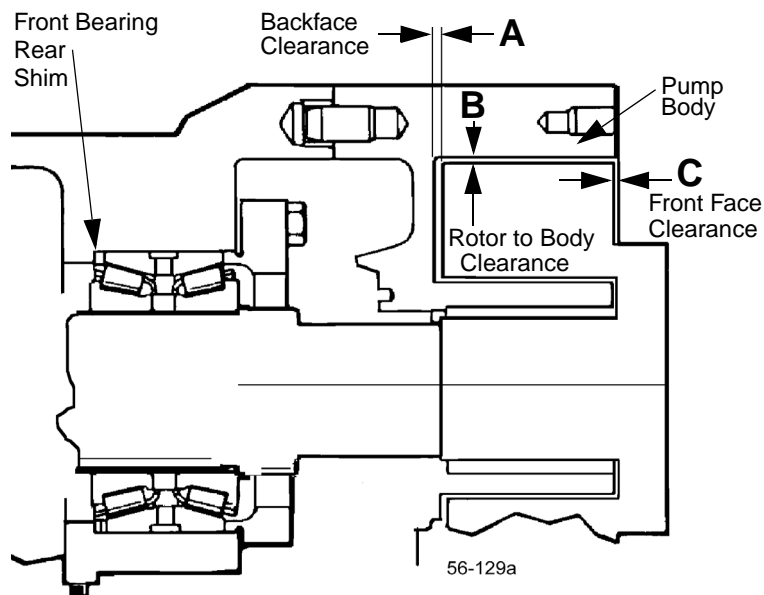

Figure 94 - Clearance Measurements
2. With feeler gauges, measure the rotor backface clearance (Figure 94, item A), through the port or from the front.
3. Measure the rotor front face clearance (Figure 94, item C).
4. Measure the rotor to body clearance (Figure 94, item B).